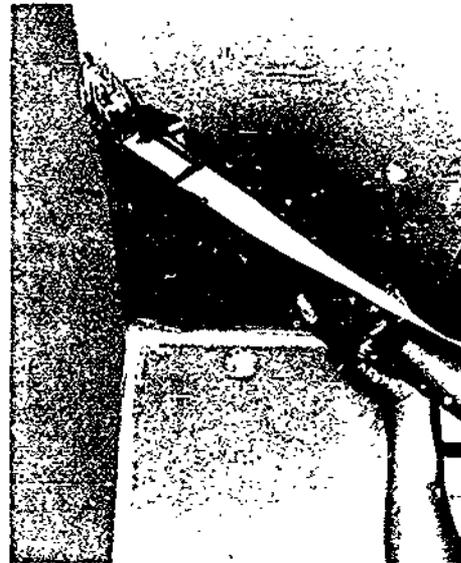

Figure 4-24
5. **Horizontal angles.** When properly held, the weight of the machine should fall on your left arm. Your right arm should only guide the machine and cut the tape and definitely should not bear weight or pull the machine along the angle. For the machine to be in the correct position two factors must be right. First, the machine head should not be too far in front of you, and second the butt end of the machine should be held high enough so that the machine approximately bisects the angle (Figure 4-24). To test if the machine is in the correct position remove your right hand. If the machine continues to move along the angle with only your left hand applying pressure, the position is right. However, if the machine falls away from the angle, the machine is too far in front of you, the butt end is too low, or both.